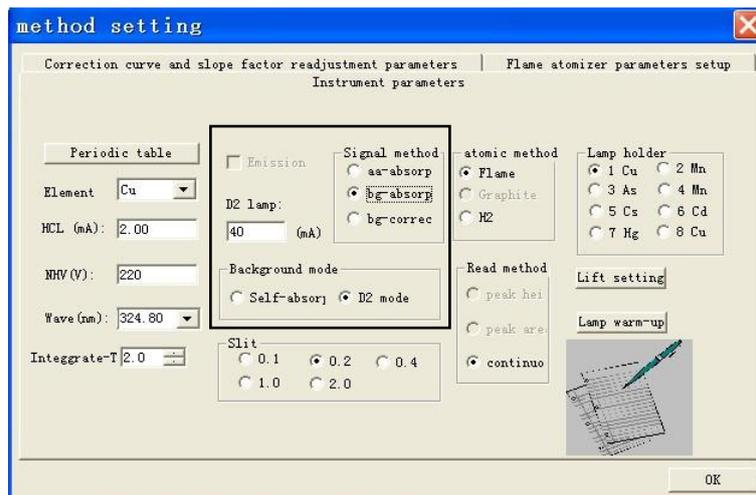
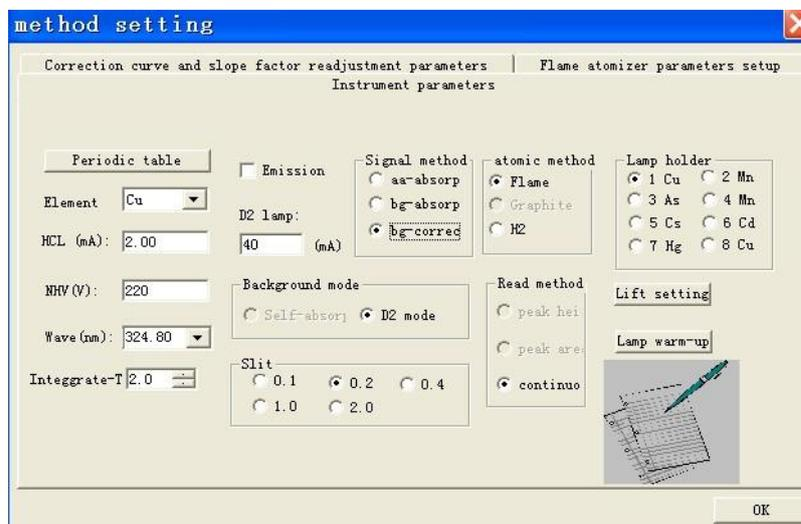

Figure 4-20
Figure 4-21
- After "Background correction" is selected as shown in Figure 4-20, the fields for the background mode and deuterium lamp current are enabled, while the radio boxes for emission are disabled.
- c. After "Background absorption" is selected as shown in Figure 4-20, the radio boxes for emission and the field for deuterium lamp current are enabled, while the self-absorption mode is disabled, as shown in Figure 4-21.